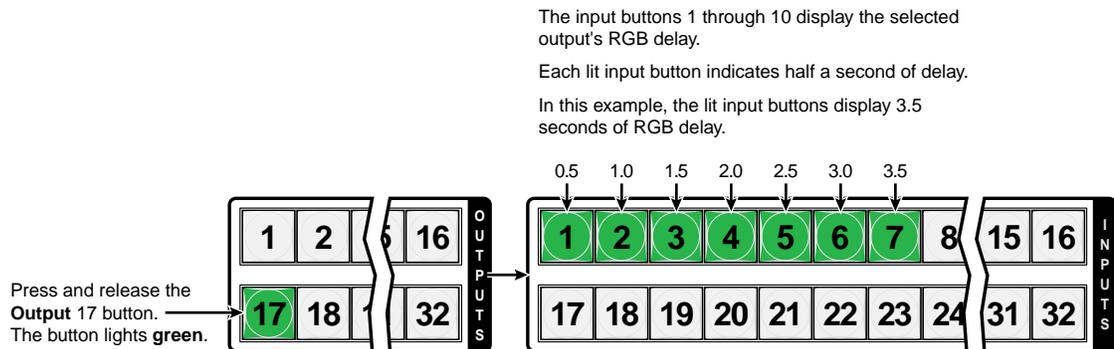

Figure 3-39 — Select an output
3. Press and release the Output 17 button (figure 3-39).